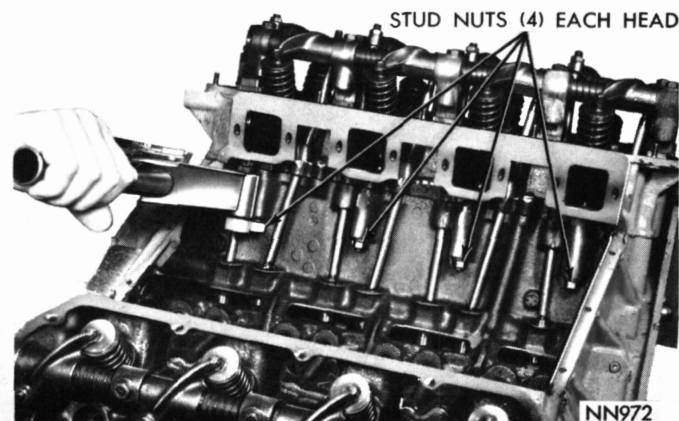
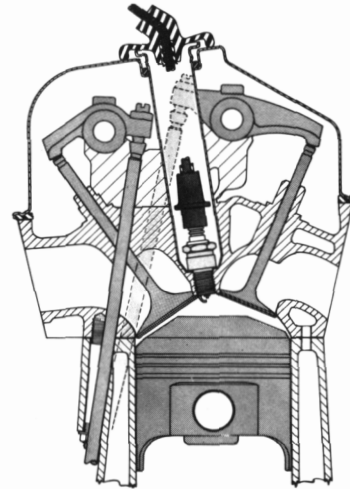

Fig. 3—Removing or Installing Cylinder Head Stud Nuts
Fig. 4—Hemi-426 Engine Combustion Chamber—Cross Section
in place by 13 bolts (Fig. 2) and 4 studs, nuts and washers (Fig. 3). The stud nuts are tightened from inside of the tappet chamber. Aluminum spark plug tubes (shown in cross section in Figure 4) serve as spark plug gaskets. The tubes project through the cylinder head cover and are sealed against oil leaks.
- (8) Remove the four stud nuts, ($\frac{9}{16}$ inch hexagon) from cylinder head studs inside of tappet chamber (Fig. 3).